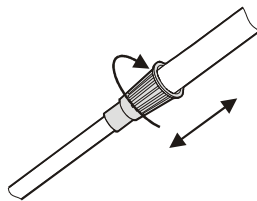

Figure.3
3. Turn the stem's lock nut clockwise until it loosens, lengthen or shorten the stem so when you stand upright with your detector in your hand, the search coil is level with and about 1/2 inch above the ground with your arm relaxed at your side. (Figure.3).